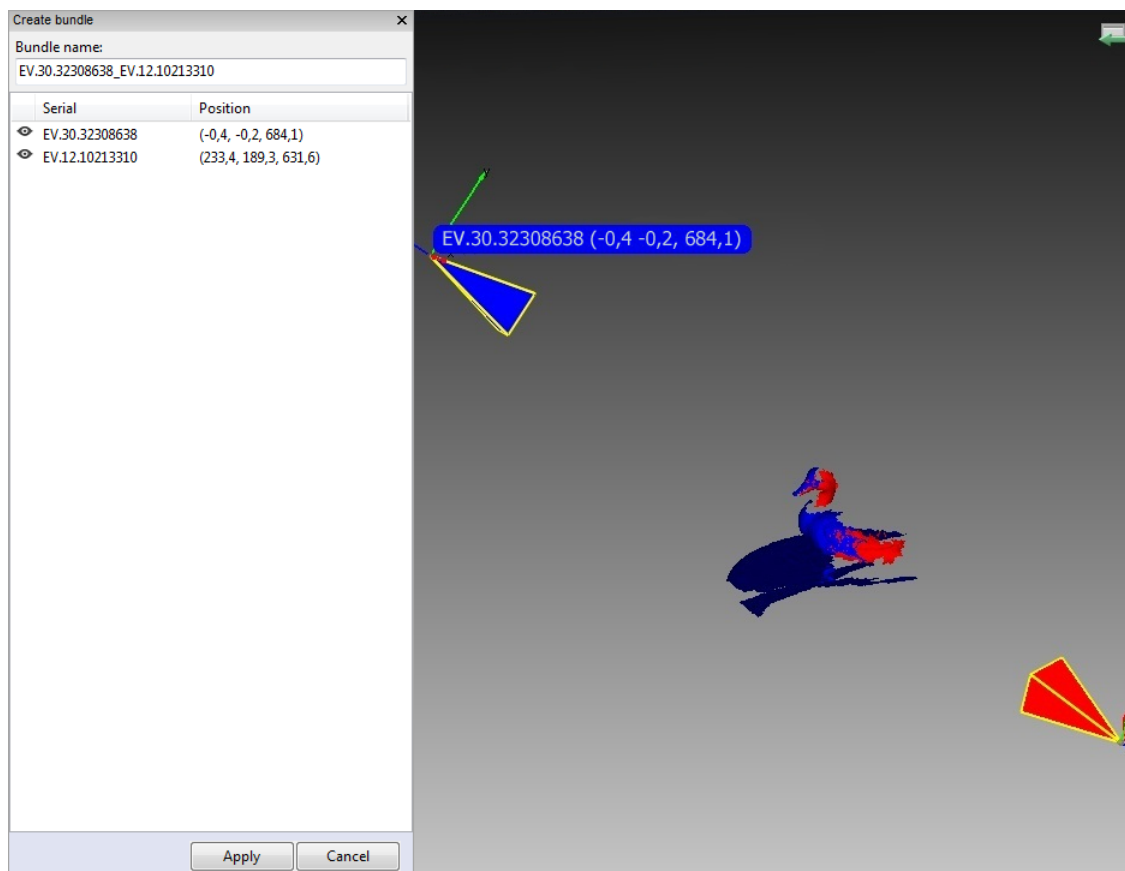

Figure 192: Bundle-creation window.
7. From the menu, select *File* → *Create bundle*. A warning message will appear if you forget to align the scans. Otherwise, the bundle-creation panel will appear (see Figure 192). The *3D View* window will show the selected scans, the position and viewing direction of the scanners (by means of an appropriately colored pyramid), the device ID, and the scanner coordinates. It will display a list of connected devices and corresponding information.